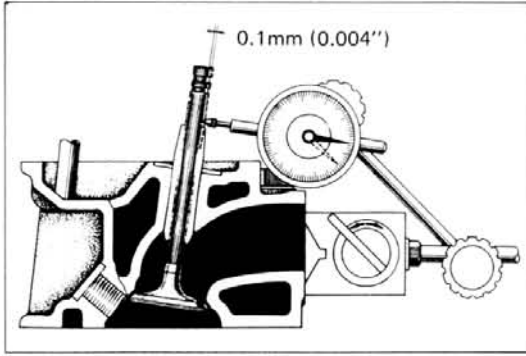

Fig. 1-21 Easy Method
- To check the clearance easily, insert the valve into the valve guide bushing, and position a dial gauge as shown in figure 1-21. At this time, the plunger of the dial gauge should be placed near the upper end of the valve guide bushing.